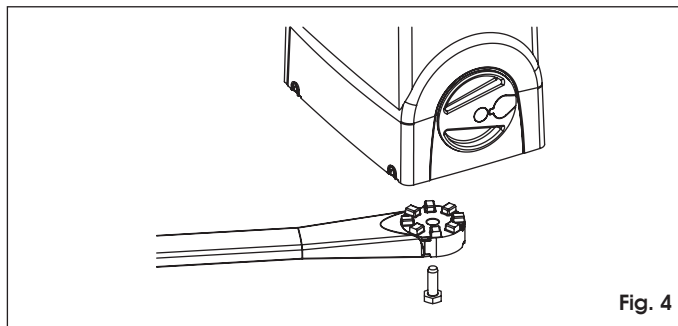

Fig. 4
4. Fix the arm on the operator, as shown in the operator instructions, Fig. 4.